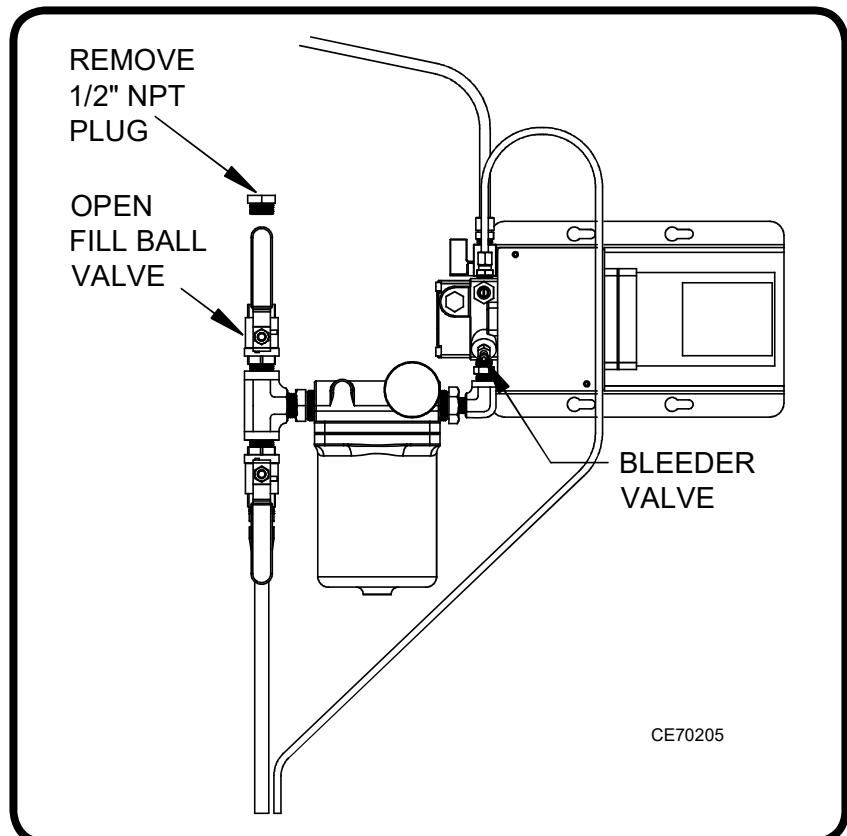

Figure 23: Priming the Metering Pump System
- (1) Refer to Figure 23.
- (2) Remove the 1/2" NPT plug and open the ball valve on the inlet of the filter.
- (3) Pour oil into the inlet of the filter until the suction oil line, filter, and pump head are full.
- (4) Close the ball valve and insert the 1/2" NPT plug.
- (5) If the pressure oil line (from the pump to the boiler) is longer than 25 feet it is recommended to disconnect the oil line at the boiler and position a bucket under the line to catch the oil.
- (1) After the burner starts, press and hold the reset button for 15 seconds until the yellow light on the primary control turns on (the burner will shut off).
- (2) Release the reset button. The yellow light will turn off and the burner will start again.
- (3) Within 15 seconds click (push and release) the reset button. This will transition the primary control to “Pump Prime” mode which will bypass the flame sensor and keep the pump on for 4 minutes.
- (4) Open the pump bleeder valve and purge all air bubbles from the pump (refer to Figure 23).
- (5) After 4 minutes the yellow light on the primary control will turn off and the control will automatically return to standby mode.
- (6) Repeat steps 1 - 5 until the pump is fully primed and oil is delivered to the burner.